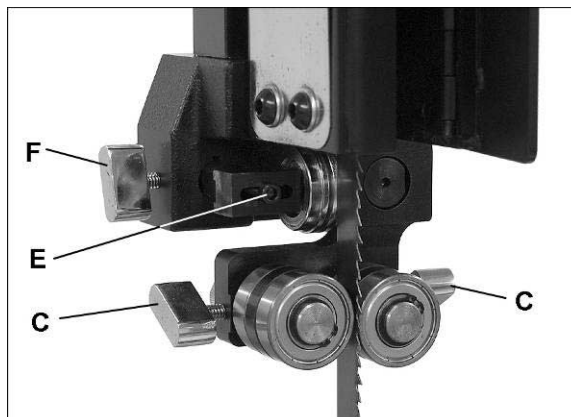

Figure 29
Refer to Figures 29 and 32:
1. Loosen the socket head cap screw (E, Figure 29) and push the thrust bearing bracket laterally to desired position.
2. Re-tighten the socket head cap screw (E).
3. Loosen the locking screw (F) and push the thrust bearing up to the back of the blade.
5. Tighten locking screw (F).